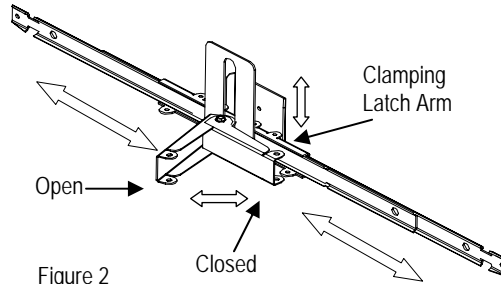
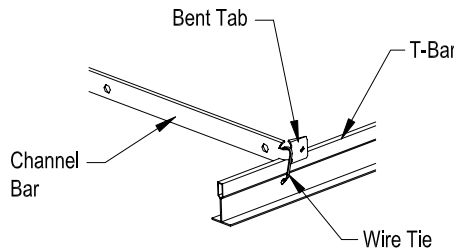

Figure 2
Figure 3
2. Position mounting frame through opening in ceiling. Release clamping latch arms and adjust channel bars to the correct spacing between T-bar as shown in Figure 2. Secure channel bars to T-bar by means of wire ties, screws or by bending ends onto T-bar as shown in Figure 3.
4. If additional security is required, a No. 8 sheet metal screw, wire tie or wire (not supplied) may be used to tie the latch arm to the mounting frame as shown in Figure 2.
1. Release clamping latch arms and adjust channel bars to the correct spacing between joists as shown in Figure 2.